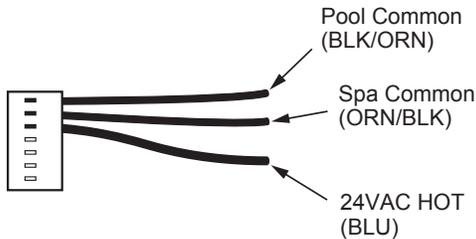

Figure 54. 7-Pin Remote Interface Harness
- On the "Remote Interface Harness", connect the BLUE wire to one side of the "REMOTE" switch and connect the other side to either the ORANGE/BLACK wire for "SPA" operation or the BLACK/ORANGE wire for "POOL" operation. See **Figure 54**.
- On the "Remote Interface Harness" connect the BLUE wire to one side of the "REMOTE" switch and connect the ORANGE/BLACK wire for "SPA" operation and the BLACK/ORANGE wire for the "POOL" operation. See **Figure 54**.